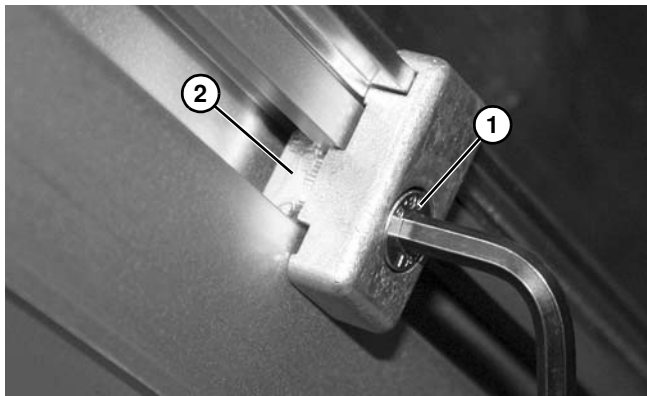

Figure 15
2. Tighten screw (**Figure 15, item 1**) making sure t-bar (**Figure 15, item 2**) rotates and engages inside of t-slot.